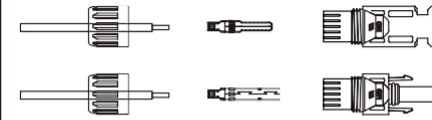

Figure 5.12 Disassemble the Connector Cap nut
1. Strip off the DC wire for about 7mm, disassemble the connector cap nut. (see Figure 5.12)